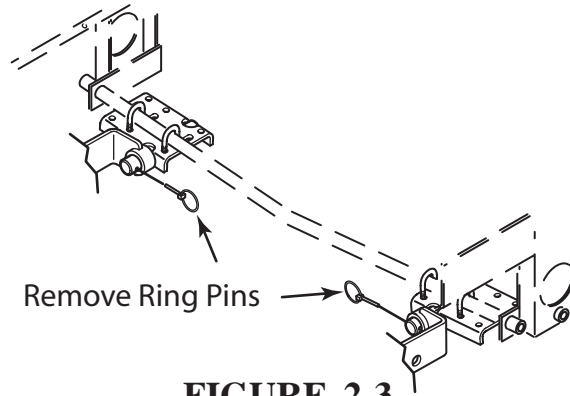

FIGURE 2-3
4. Once the Tiger Stripper is locked in the transport position, remove the ring pins securing the Tiger Stripper to the mounting brackets. See Figure 2-3